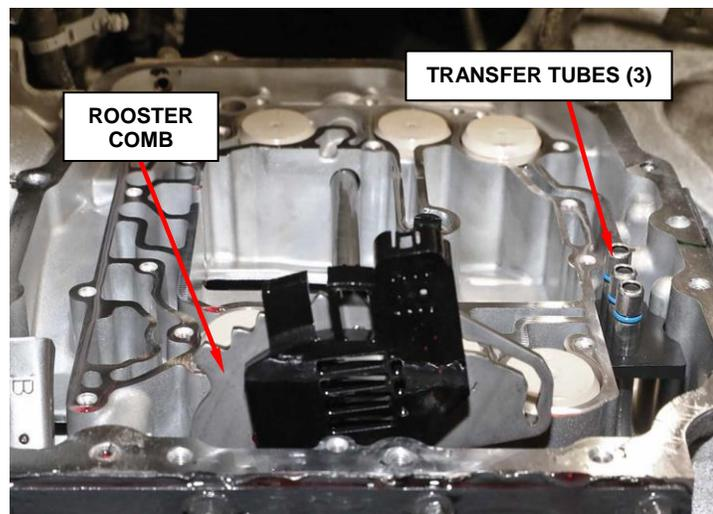

Figure 8 – Trans Case
28. Set the valve body into the underdrive compounder assembly oil transfer tubes and press the valve body into place (Figure 8).